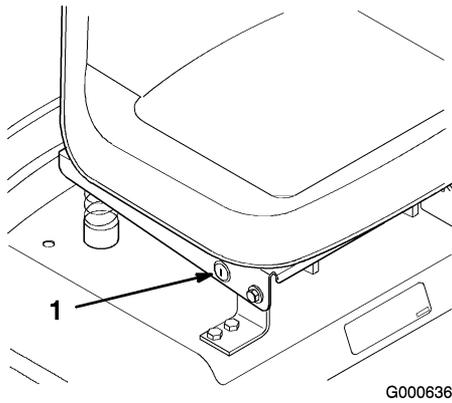

Figure 18
If you need to use the PTO while backing up, you can turn off this interlock feature using the KeyChoice® switch located near the seat bracket (Figure 18).
2. Insert the KeyChoice® key into the switch (Figure 18).